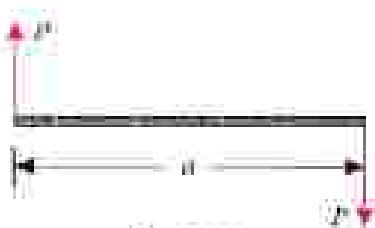

Fig. 1.23
- The perpendicular distance (a), between the lines of action of the two equal and opposite parallel forces, is known as arm of the couple as shown in Fig. 1.23.